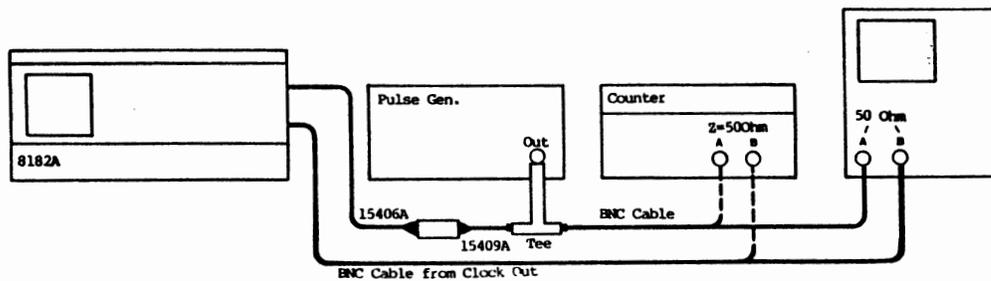

Figure 4-4 Clock Delay Test Setup
4. Connect equipment as shown in figure 4-4 trigger oscilloscope to channel A and position the 8182A clock output signal exactly on the left horizontal graticule line.
6. Program 8182A clock delay to 0.00 ns and connect counter as shown in figure 4-4.